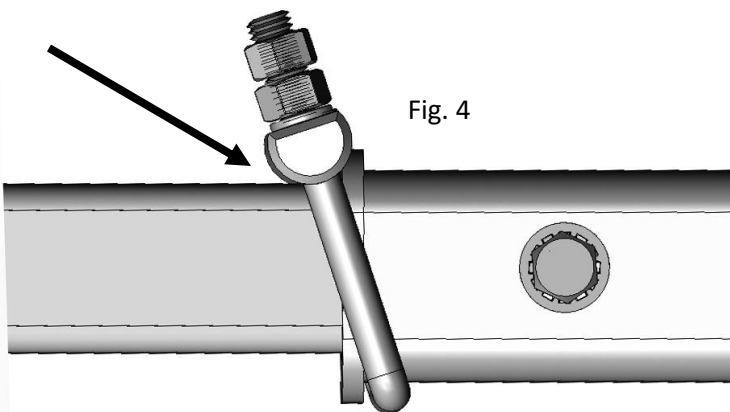

Fig. 4
4. Slide the clamp bar onto the legs of the U-bolt. Rounded surface of the clamp bar must in contact with the flange and accessory tube per Fig. 4.
Tighten the front lever until all the play is taken out between trailer hitch and hitch tube (Fig. 4). After tightening, front lever should always be pointed upwards or to the side to avoid damage when going up or down steep driveways.